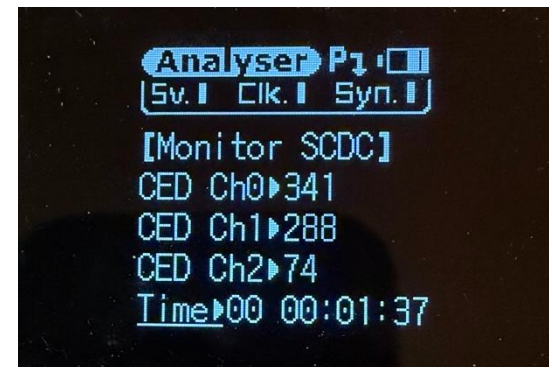

Figure 2
3. CH0, CH1 and CH2 will display signal packet drops if, and when they occur. (figure 2)